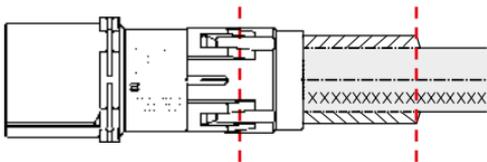

Figure IV-12: Shrink tube assembly over the cable for Han® HC Modular 650
- ① Strip the cable according to Figure IV-11 and Figure IV-12.
- ② The following points must be observed when applying the shrink tube directly on the cable:
- ③ Terminate the cable to the torque specified for the wire gauge (refer to Table IV-2, p. 32-35):